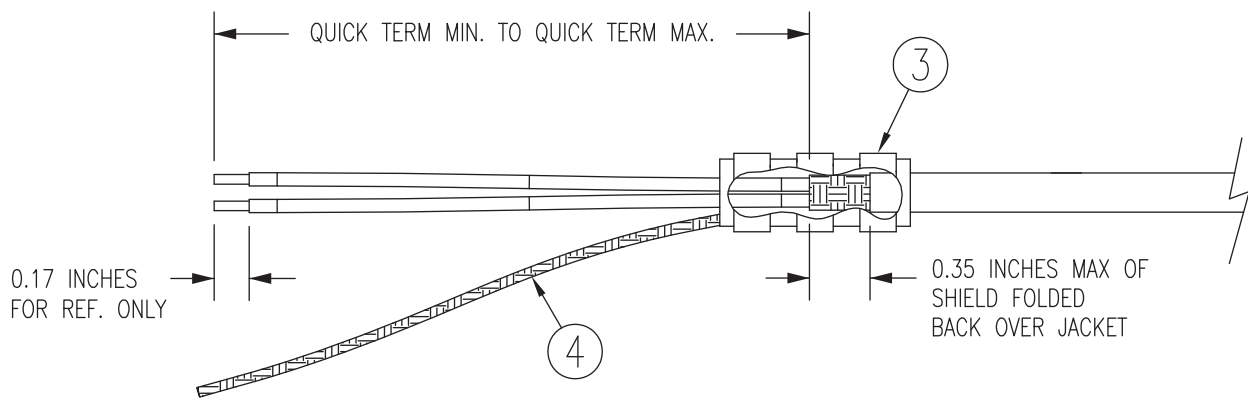

Figure 6-6 Shield Termination Technique Method B.1
If desired, the drain wire termination (item 3, Figure 6-1 or Figure 6-2) and the floating shield termination (item 5, Figure 6-1) can be effectively combined into a “Quick Term”. This method eliminates the float in the cable insulation and moves the placement of the window described in Method A.1. This technique is depicted in Figure 6-6.
3. Connect a flat braid (item 4, Figure 6-6) to the folded back shield of the prepared cable assembly. The flat braid should exit the front of the termination and towards the connector. The flat braid should not exit the rear of the termination and loop back towards the connector. Make the connection between the flat braid and the prepared cable assembly using an approved shield termination technique.
Slide a solder sleeve (item 3, Figure 6-6) onto the prepared cable assembly and connect the flat braid to the shield using a heat gun approved for use with solder sleeves. Using a solder sleeve with a pre-installed flat braid may ease the assembly. The chosen size of solder sleeve must accommodate both the number of conductors present in the cable and the flat braid.
Solder a flat braid to the folded back shield of the prepared cable assembly. Ensure a solid electrical connection through the use of acceptable soldering practices. Use care to avoid applying excessive heat that burns through the insulation of the center conductor(s) and shorts the shield to the signal wire(s). Slide a minimum of 0.75 inch of Teflon heat shrink tubing (item 3, Figure 6-6) onto the prepared wire assembly and shrink using a heat gun. The chosen size of heat shrink tubing must accommodate both the number of conductors present in the cable and the flat braid.